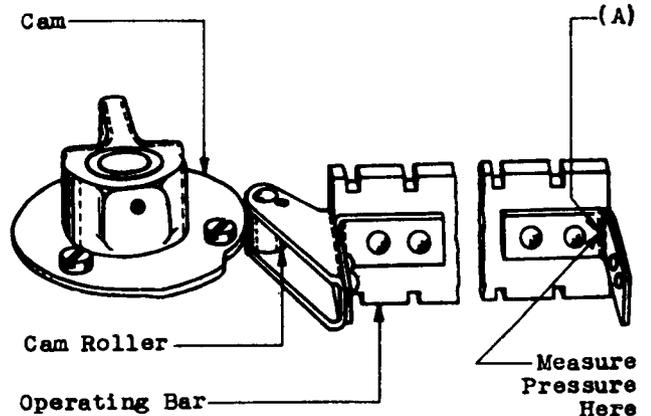

Fig. 26 - Pressure Between
2.16 Pressure Between Cam and Cam Roller - Fig. 26 (A): When the operating bar is in the normal position the pressure between the cam and the cam roller shall be: